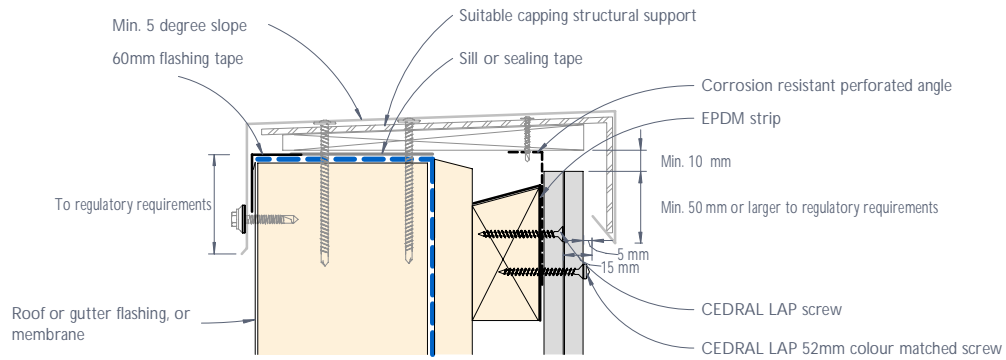

Figure 37: CEDRAL LAP typical capping detail
- 2) Capping shall be designed and engineered accordingly to provide adequate allowance for ventilation as shown in Figures 37 & 38.